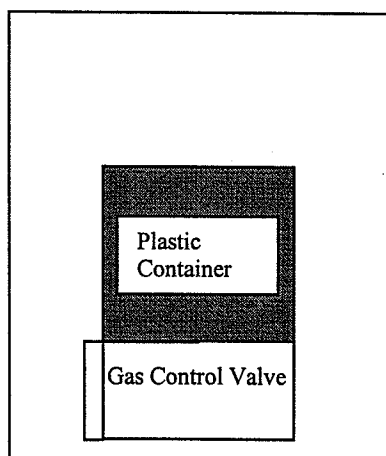

Figure 22
- 4 Make sure gas control valve is protected from water and moisture. Use the bottom 3" of a ½ gallon plastic container for protection (see figure 22 page 26). Or use the optional valve cover available from the factory (see figure 22 page 26) .